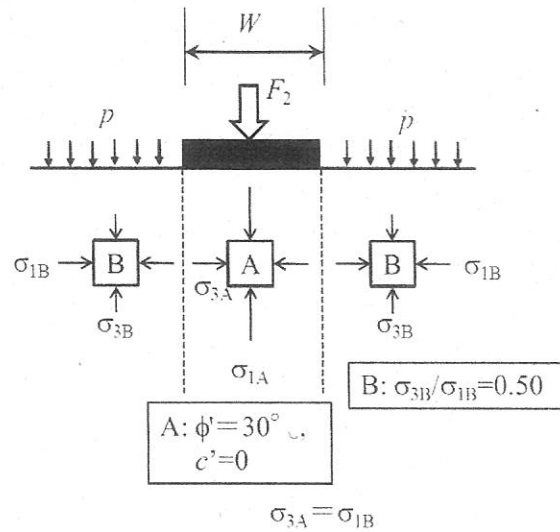

Figure 5
- b) Failure of subsoil does not always occur simultaneously, but takes place in a progressive manner starting from the region near the foundation. As shown in Fig. 5, assume that the stress state A is the same failure state as in a), while the stress state B is a pre-failure